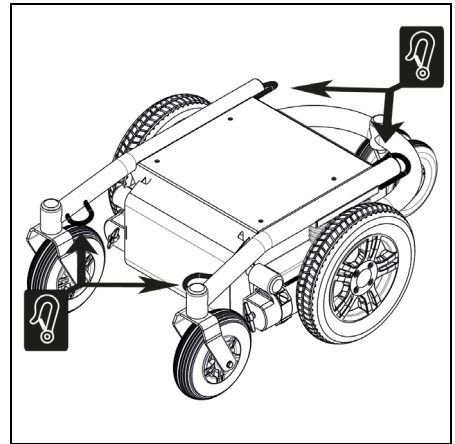

Figure 7.1
Power wheelchairs are very heavy to lift. Use suitable ramps to wheel the chair in and out of the vehicle. Once the wheelchair is in the vehicle, it must be secured with an ISO 10542 approved tie-down system that is suited to the weight of that particular wheelchair. The wheelchair can only be fastened by securing it to the tie-down points on the wheelchair's frame (fig. 7.1). The total weight of the wheelchair depends on its composition. The technical specifications (Ch. 10) give insight in several optional items and how they influence the total weight. Always weigh the total weight of the wheelchair to be certain that the correct fastening system is used.
- The wheelchair can only be fastened by securing it to the tie-down points on the wheelchair's frame (fig. 7.1). The wheelchair may not be secured onto any accessories (wishbones, armrests, anti-tip brackets etc.).
- Use all 4 tie-down points (fig. 7.1).